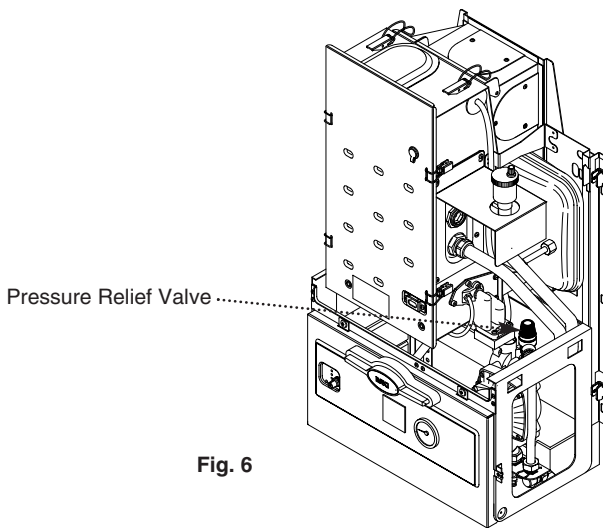

Fig. 6
4.10 Pressure Relief Valve (Figs. 6 & 7)